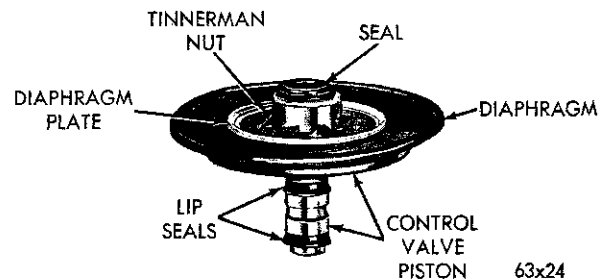

Fig. 40—Control Valve Assembly
(5) The control valve assembly consists of a piston assembly, a rubber diaphragm, a diaphragm plate and a Tinnerman nut (Fig. 40). The piston assembly